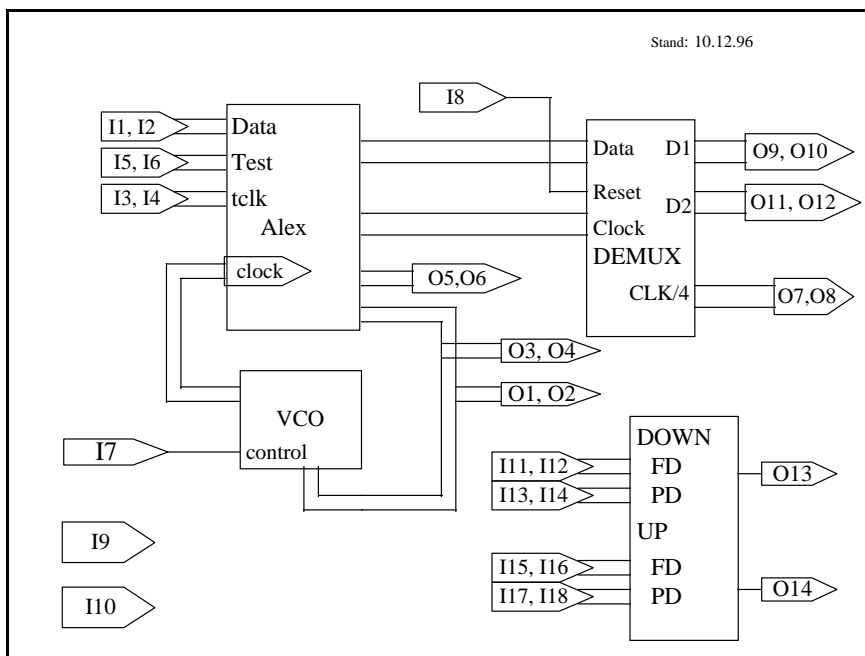
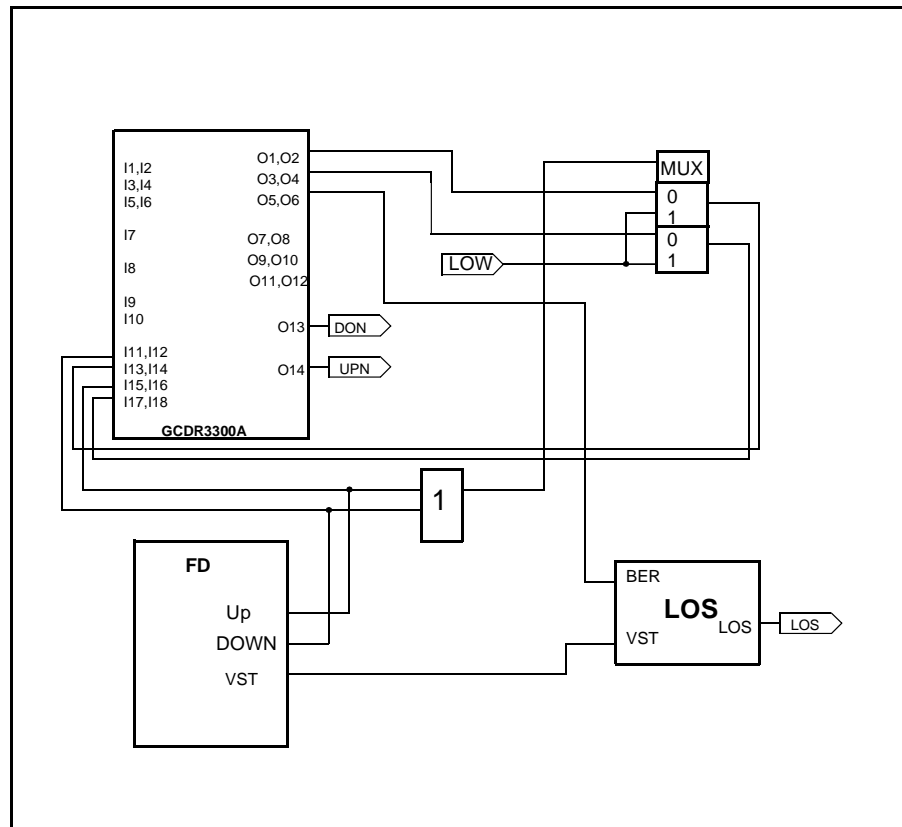

fig. 1: Block diagram GCDR3300A
fig. 4: Internal PLL circuit
The GCDR3300A is a macro to be used within the SH100G Gate Array-environment. This macro is designed for 2.5 - 3.3 GHz applications. It contains a 1:2 demultiplexer and a phase detector (PD) [1] with bit error detection and VCO (fig. 1).
In figure 1, the internal structure of the macro is shown. The block ALEX represents the combined phase detector and decision circuit [1]. In this block, the data signal is recovered and the UP and DOWN signals are generated. Also a Bit error detection signal (BER) is available. This BER signal can be used to build a 'Loss Of Signal' detection (LOS). The VCO is a ring oscillator structure with a  $K_{VCO}$  of about 2 GHz/V (fig. 3). The 1:2 demultiplexer circuit gets the data and clock signal from the ALEX.
The PLL consists of a phase detector(PD), a frequency detector (FD), and a loopfilter. The PD is realized in the macro GCDR3300A. The outputs O1-O4 of this macro are the UP and DOWN signals of the PD. These UP and DOWN signals are mixed with the UP and DOWN signals of the FD. This can be done with the inputs I11-I18 of the GCDR3300A. The signals of the PD are weighted 9 times stronger than the signals of the FD. So it is important to use the right input for each signal (see figure 1 and table 1)! Pin O13 and O14 of the GCDR3300A are fed to the loop filter. The external circuits can be implemented as shown in figure 3. The FD compares the divided VCO signal with a reference clock. The value of a counter, after a certain time, gives the information whether the VCO is too fast or too slow. When the FD gives the value 'too slow' or 'too fast' the PD signals have to be turned off at pin I13, I14 and I17, I18. This can be done by a multiplexer (fig. 4).